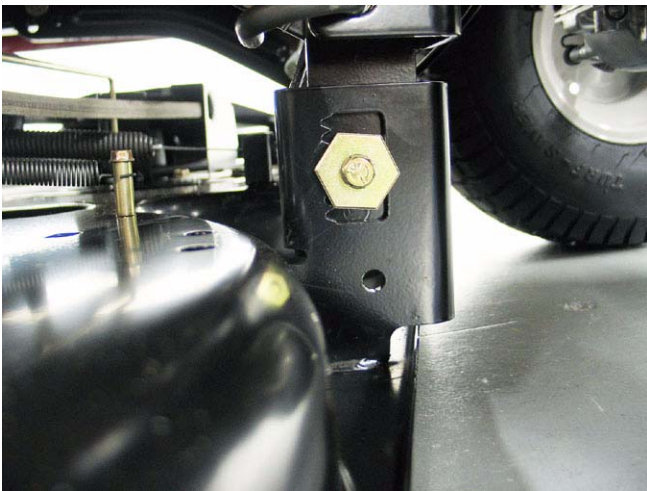

Figure 2.5
- 2.5. Side-to-side leveling is still done on the left side of the deck. See Figure 2.5.